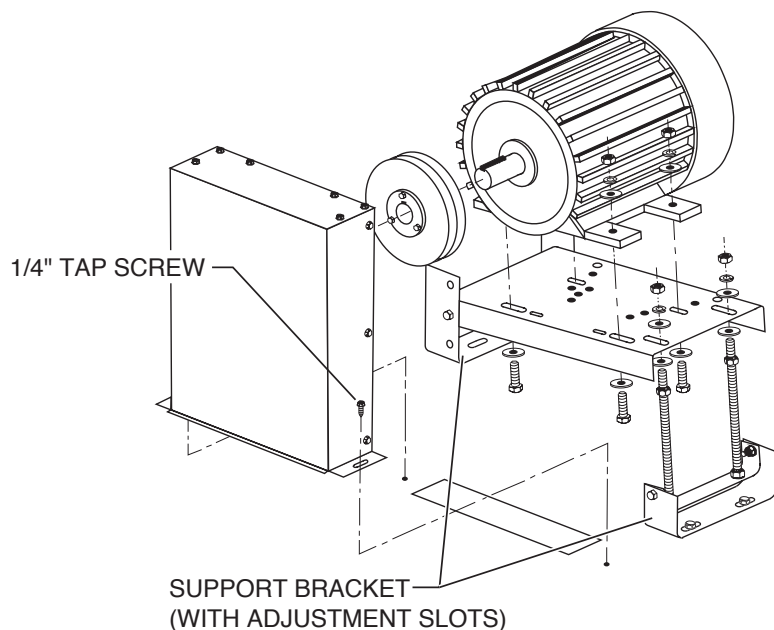
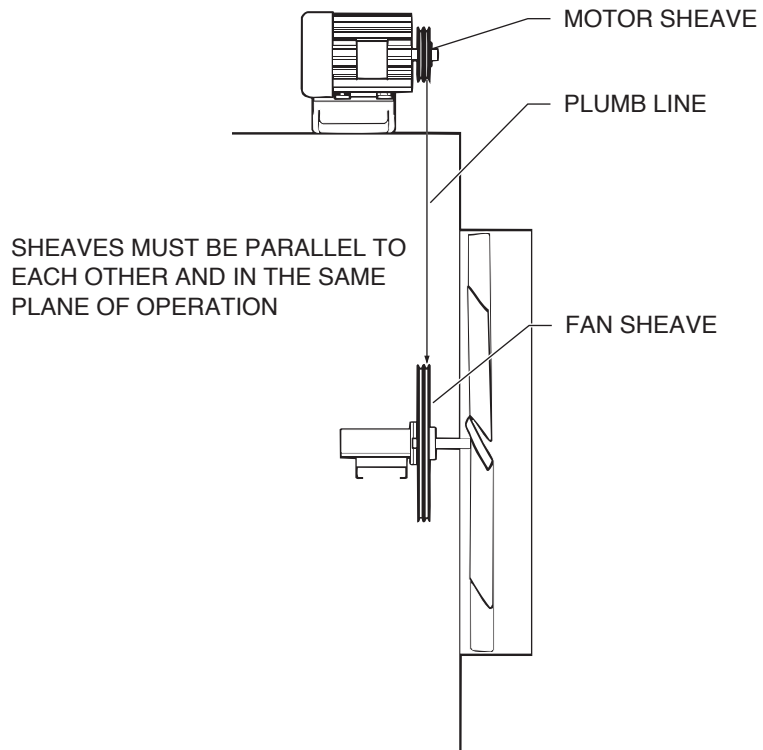

Figure 2
Figure 3
3. Attach motor to motor base with four bolts, flat washers, lock washers and nuts provided, see **Figure 2**. You may want to loosen the adjusting bolts and raise the motor base so you can reach under the motor base to tighten the motor hold-down bolts.
5. Install motor sheave and align it with fan sheave. Motor support brackets are slotted to assist in alignment. See **Figure 2**. A plumb line will be helpful in aligning sheaves. See **Figure 3**.
8. Install the belt guard as shown in **Figure 2**.